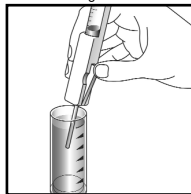

Figure 4
4. Hold the Titrettor with the sample pipe in the sample and press the control bar firmly, but briefly, to pull in a small amount of sample. The contents will turn a **PINK** color (fig. 4).